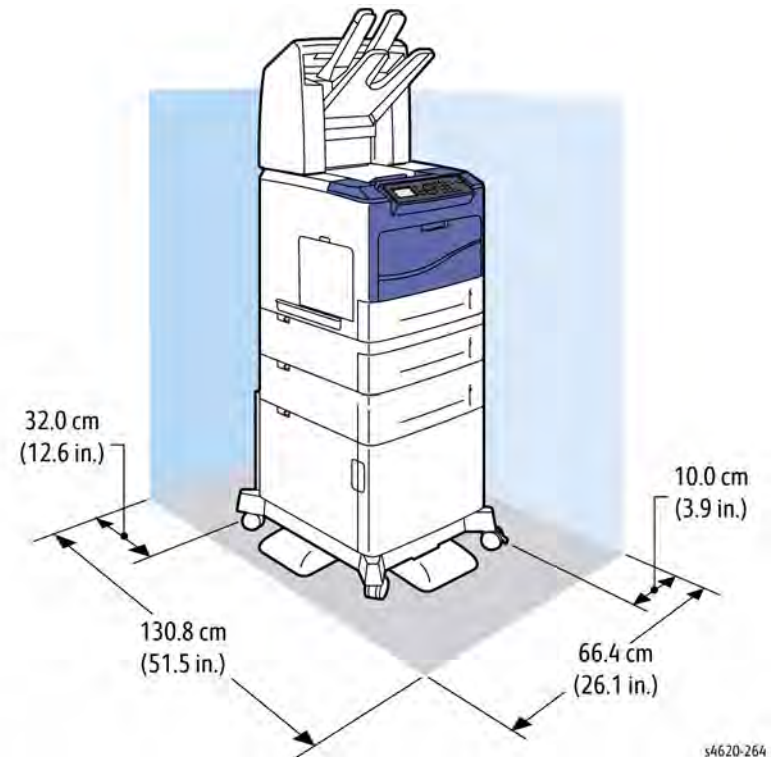

Figure 1 Minimum Clearances
Figure 1 shows the required amounts of space needed to properly operate and service the machine.
1. In order to function properly, the printer must be placed on a flat surface with the following minimum clearances, Figure 1.